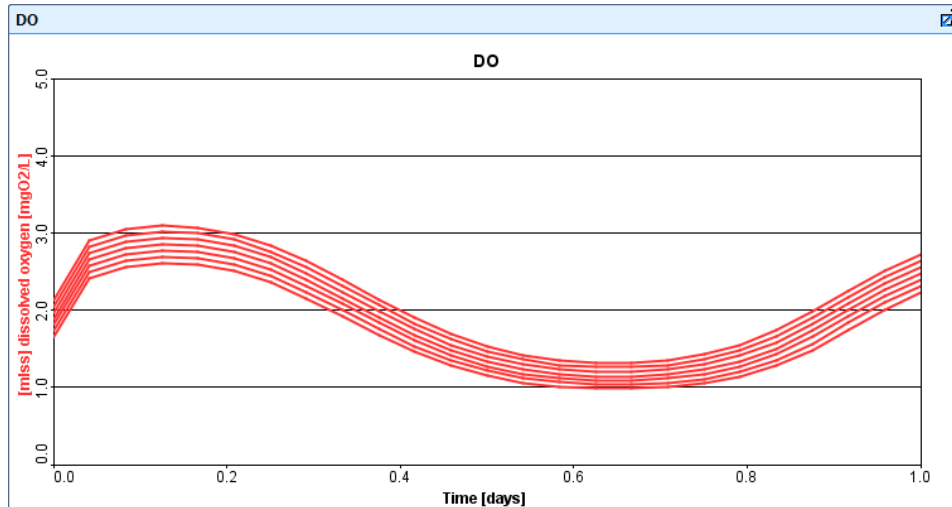

Figure 9-9 – Example of Time Dynamic Analysis Results
19. **Set the simulation time** to 1-day (with **Steady State** checked so that the initial conditions are at steady state) and **Start** the simulation. The results of this simulation are shown in **Figure 9-9**.
Each successive curve on the various graphs is the result of a dynamic simulation using a specific air flow into the aeration tank. Notice in **Figure 9-9** that for increasing values of air flow, the DO concentration in the aeration tank increases - it also fluctuates over time because of the sinusoidal influent flow and load patterns. You can change the number of run curves on the graph by going to **View > Preferences > Input/Output > Number of runs displayed (analyze/optimize)**.